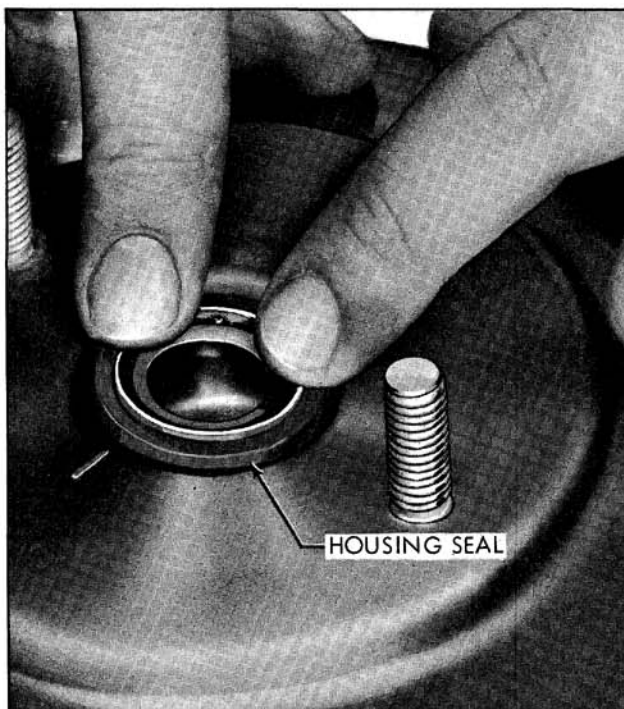

Fig. 11-65 Installing Housing Seal
10. Apply lubricant to a new front housing seal and install seal in the front housing, metal ridge of seal up. (Fig. 11-65)